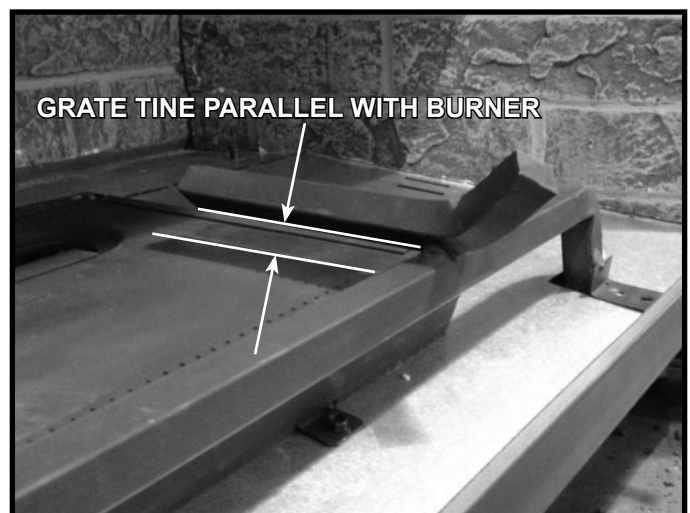

Figure 11.2 Grate Tine Parallel to Burner (Appliance Shown with Optional Refractory Installed)
- Inspect the grate prior to installing the embers, logs and lava rock. The grate tine on the right hand side should be parallel to the burner. See Figure 11.2. If the grate is not parallel to the burner, contact your dealer.